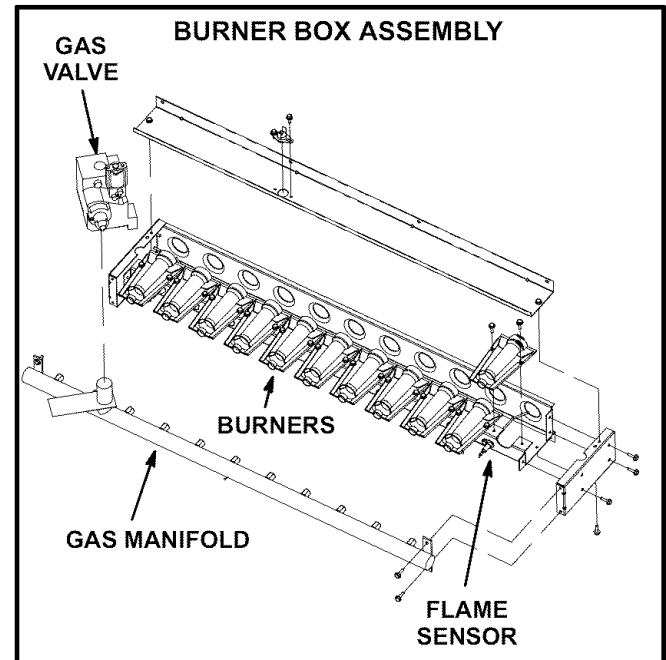

FIGURE 9
- 3- Remove two screws securing burners to burner support and lift the burners from the orifices. See figure 9. Clean as necessary. Spark gap on ignition electrode must be properly set. Refer to the Heating Adjustment section in the installation instructions.